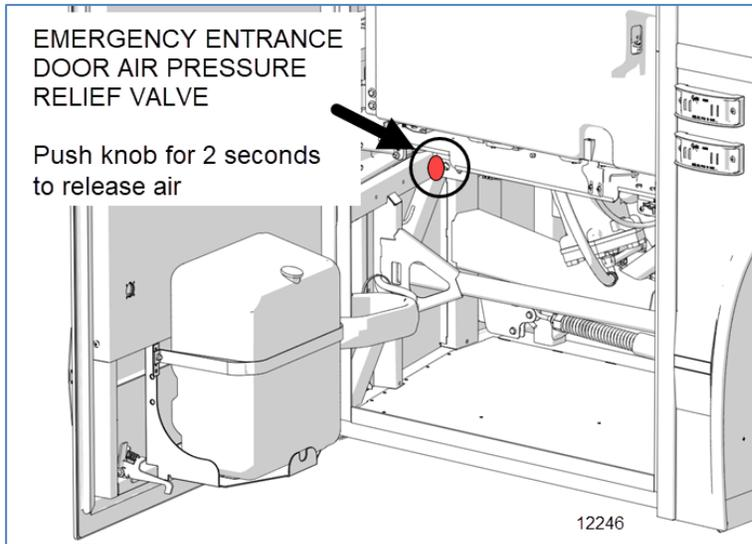
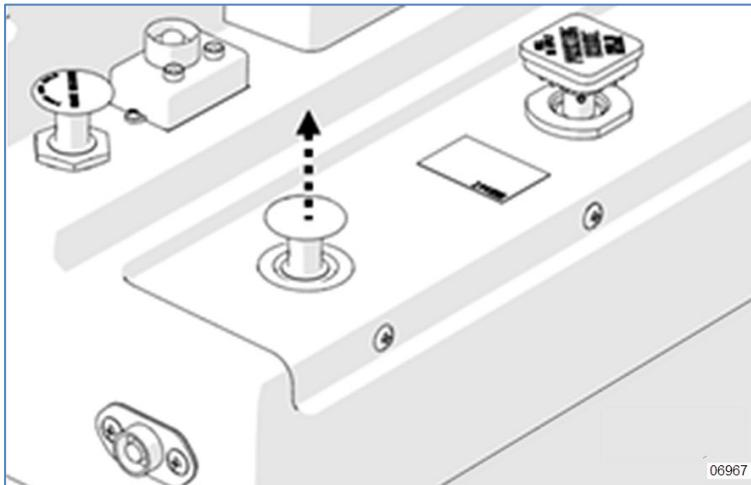

Figure 5
Figure 6
2. Push the Emergency Entrance Door Air Pressure Relief Valve in the front service compartment for two seconds to release the air (Figure 5). The Emergency Entrance Door Air Pressure Relief Valve no. 9 on the lateral control panel **should** pop out (Figure 6).